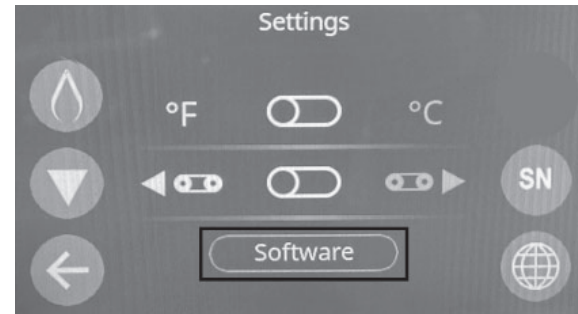

Figure 24
5. Software Update - Press the "Software" button highlighted below in (Figure 24) to update the UI to the newest version.
1. Press the Diagnostics button on the Home screen to access this mode. (Figure 24)